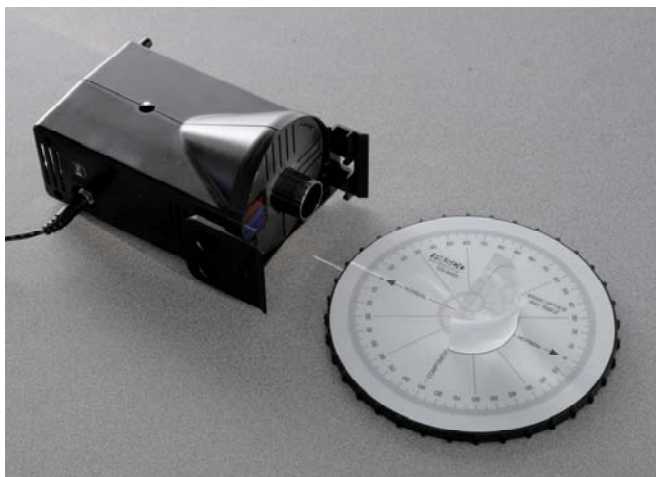

Figure 2: Setup
1. Place the basic optics light source flat on the lab table and rotate the knob on the front of the light source to produce a single ray of light as in Figure 2.